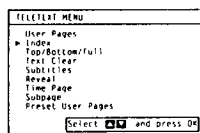

Fig. 35.
- 2 Using  $\Delta$  or  $\nabla$ -, select the teletext function you want and press OK. (See Fig. 35)